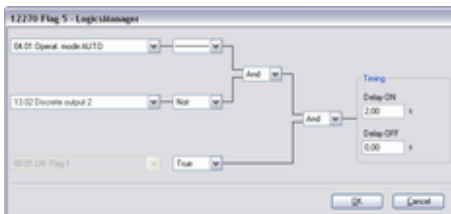

Fig. 230: LogicsManager function "Flag 5"
- ➔ Configure the LogicsManager function "Flag 5" as shown in (Fig. 230).